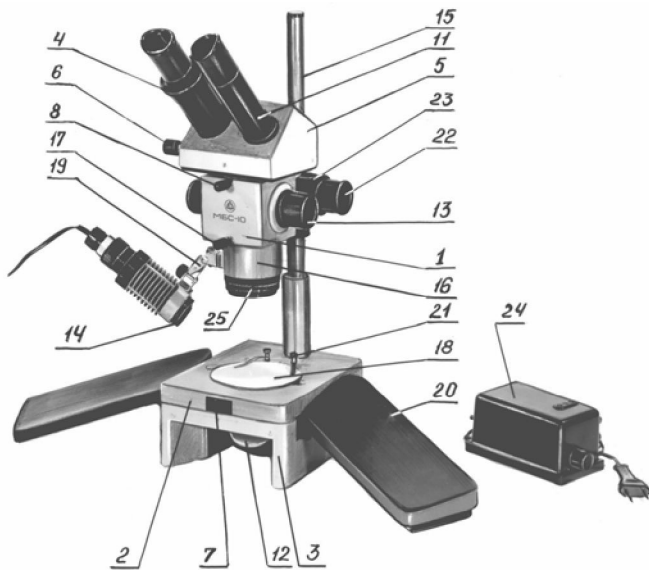
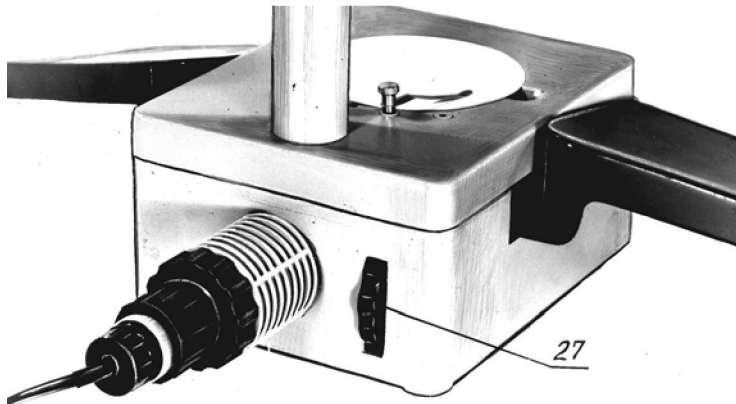

Figure 1 - General view of the microscope
Figure 2 - The microscope table
An object image is formed due to the successive rays transmission through the  $f=90\text{mm}$  objective 16; pair Galilean systems, set in the drum placed in the body placed in the body 1; tubules lenses and Schmidt prisms, been in the binocular attachment 5 and changeable eyepieces, which installed into the eyepieces tubes 11 (Figure 1).
The general view of the microscope is given in Figure 1. The microscope consists of the following basic units:
The necessary magnification is setting by rotation the handle **13** (Figure 1) to match the digit on the handle with the index point on the ring.
The focusing of the microscope on the object is carried out by the optical head traveling relative to the microscope table along the guide line of "dovetail" type by rotation the handles **22** (Figure 1).
Throw control of focusing handles from slight to stiff is fulfilled by revolving the handle **23** (Figure 1).
In the body of the optical head incorporates the drum with the Galilean systems. Rotating the handles **13** (Figure 1) which are fixed on the drum shaft changes over the value of magnification. On the handles **13** are indicated the magnifications in round numbers (7, 4, 2, 1 and 0.6 mult.).
The objectives and Schmidt prisms are installed in the binocular attachment **5** (Figure 1).
The changing of interpupillary distance is fulfilled by rotation the Schmidt prisms in the opposite direction by the screw mechanism that is put in motion by handle **6** (Figure 1).
On the stand **15** of the microscope table is fixed the optical head by the clamping screw which should always be tightened. To prevent an accident dropping of the optical head and for improvement of illumination in the right and left branches of the microscope on the stand is a clip **28** (Figure 2), fixed in the required position by screw **26** (Figure 2). The table has a round window (see Figure 1), in which the preparation glass or the plate **18**, two holes for the clamp **21** and three holes for the substage ST-12 setting are installed, the latter is
not included in the microscope standard equipment and is purchased separately. The one side of the plate **18** is white and is intended for observing dark objects, the other side is black and is intended for observing light objects. The table **2** for operating in reflected light is mounted on the table **3** for operating in transmitted light and is fixed by the lock **7**, faced to the front open side of the table body. There are mirror and clouded plate in mount **12** in the table **3**. Their rotation is fulfilled by knob **27** (Figure 2). The table rear wall has a seat for fixing the illuminator in operating with reflected light. The side walls of the table have seats for mounting the elbow-rests.
If operating at reflected light the illuminator is installed in the arm seat **19** (Figure 1) which makes possible to illuminate the object under different angles and from different sides. The arm **19** can be fixed in the required position by rotation the ring **25**.
The power of the illuminator lamp is provided through the power supply unit **24** (Figure 1) from alternating current mains Of 220 V using the flex with the plug of the side ground contact. The cover of the power supply unit has a connector of 12V for the illuminator switching on (by means of two prongs). The side walls of the power supply unit have toggle switch, lamp voltage regulator, holders of safety devices (of fused plugs) of 1.0A and 3.15A.
- b) install the binocular attachment in the bayonet seat of the body with drum and tighten screw **8**. In operating with artificial lighting the binocular attachment **5** should be installed as it is shown in Figure 1. At the natural lighting it is necessary to rotate the binocular attachment at  $180^{\circ}\text{C}$ ;
3 The index on the ring must coincide with figure 2 at the handle of the drum that is between 7 and 4. If index don't coincide with the indicated figure, return the ring with the index around its axis to combine with the indicated figure 2.
Focus the microscope on the object by rotation the handle **22** (Figure1). Install the interpupillary distance according to the base of observer's eye, by turning the handle **6**.